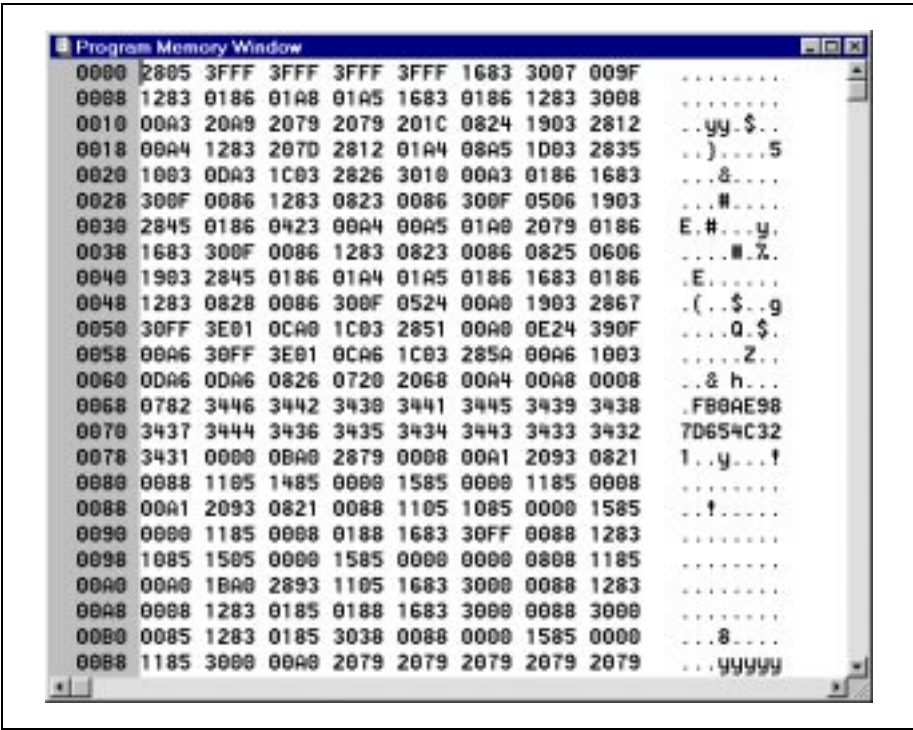

Figure 5.8: Program Memory Window – Hex Code Display
- **Hex Code Display** – This displays the program memory as hex data. This option is most useful when using a device programmer (Figure 5.8).